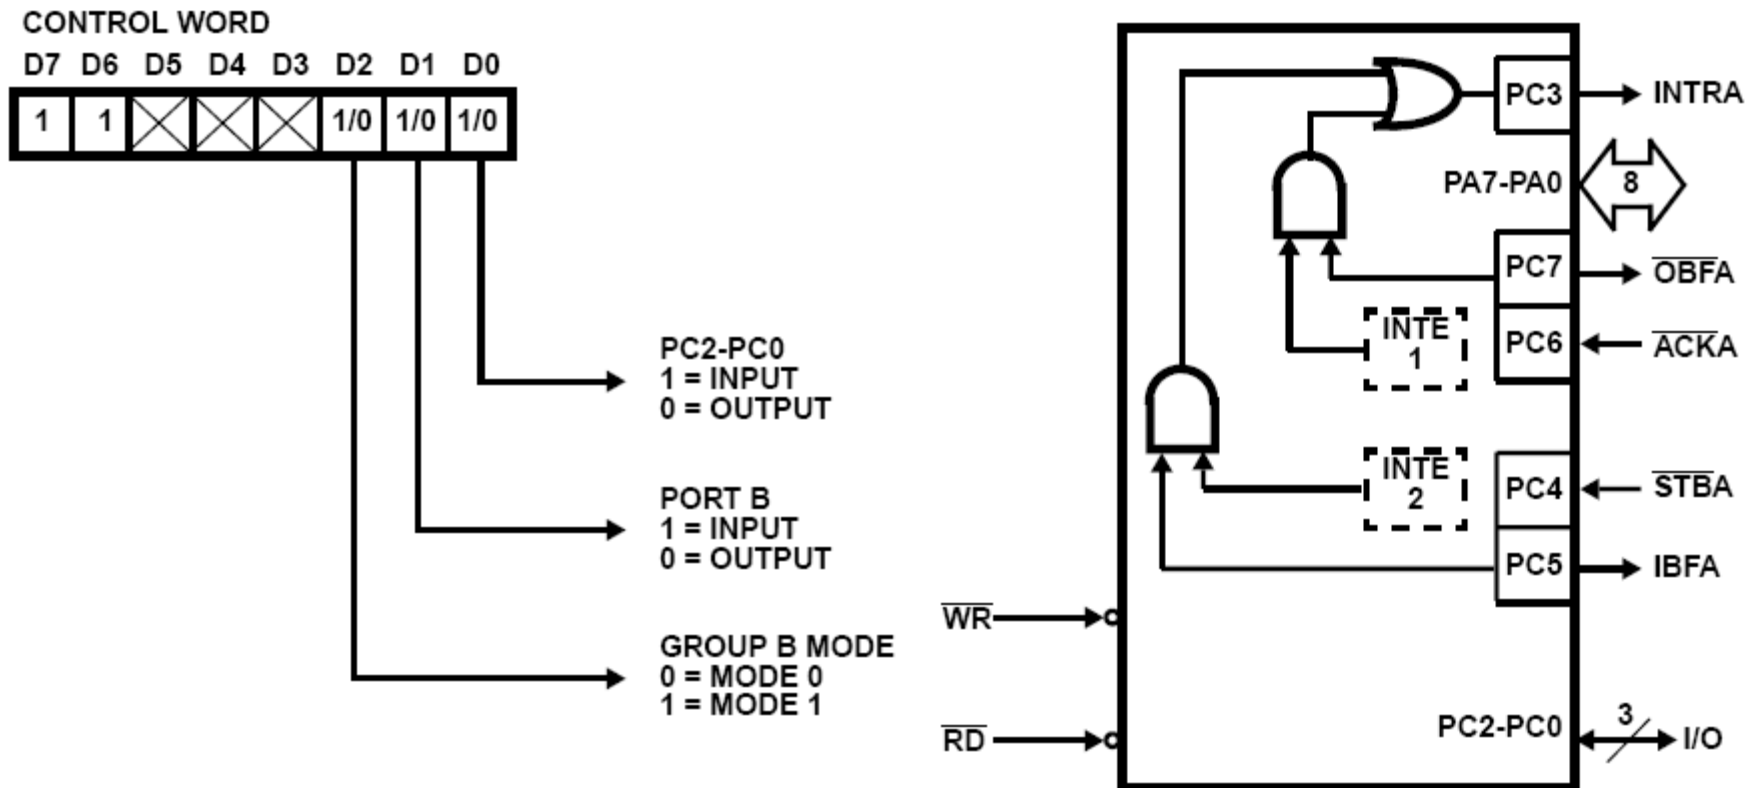

Figure 9: Mode 2 control signals.
- Figure 9 shows the control signals for mode 2 configurations.